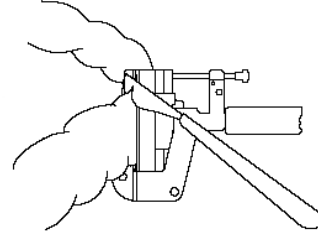

Fig. 5
4. After stapling, use an operating scalpel to remove the remaining parts that need resection. Then, open the instrument jaws by rotating the shifting nut counterclockwise to release the stapled tissue and withdraw the instrument. (Fig. 5)